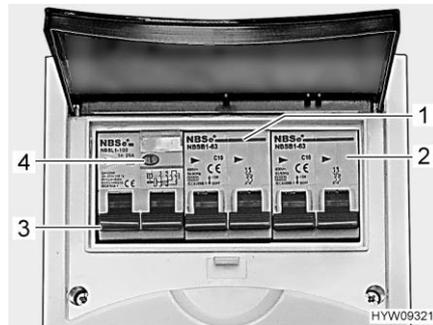

Fig. 111 Safety cutout and FI-switch (230 V fuse box)
A fault current protection switch (FI-switch) (Fig. 111,3) in the fuse box protects the complete vehicle from fault current (30 mA).
The downstream safety cut-out (10 A) (Fig. 111,1) secures the 230 V sockets, the transformer/rectifier, the auxiliary charging unit and the refrigerator.
For vehicles with optional equipment, e.g. roof air conditioning unit, the device is protected by an additional safety cut-out (16 A) (Fig. 111,2).
- When the vehicle is connected to the 230 V power supply, press the test button (Fig. 111,4). The fault current protection switch (FI-switch) must be activated.